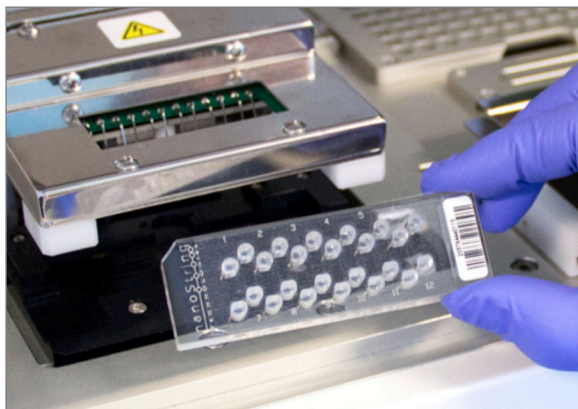

FIGURE 5.18: Insert an unused cartridge into the Prep Station in the orientation shown
- b. Insert a Sample Cartridge under the electrode fixture in the orientation shown in **FIGURE 5.18**. Place the cartridge on the deck and slide it into position, avoiding the electrodes. Make sure that it is seated completely in the machined depression. When positioned properly, a latch will activate and hold the fixture in place. If it is not seated properly, the electrodes may become bent when the electrode fixture is closed.